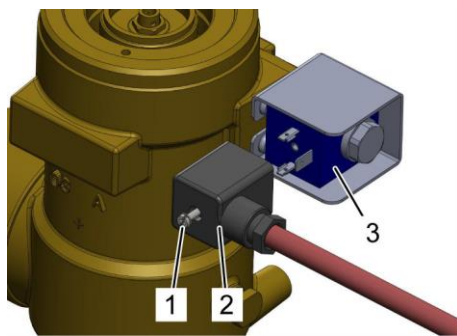

Fig. 177: Check the coil
9. ➤ Plug the plug (Fig. 177/2) onto the coil (Fig. 177/3) of the valve and secure with the screw (Fig. 177/1).